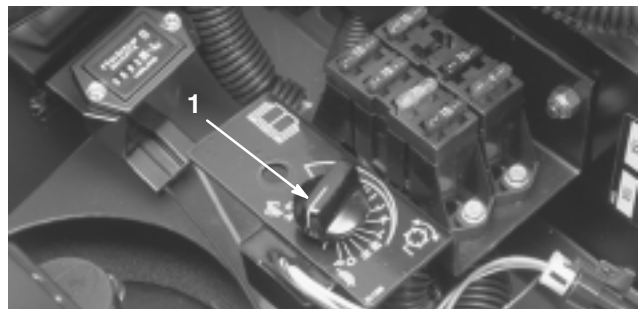

Figure 23
3. Open control cover and turn the H.O.C. selection knob to position “P” (Fig. 23).